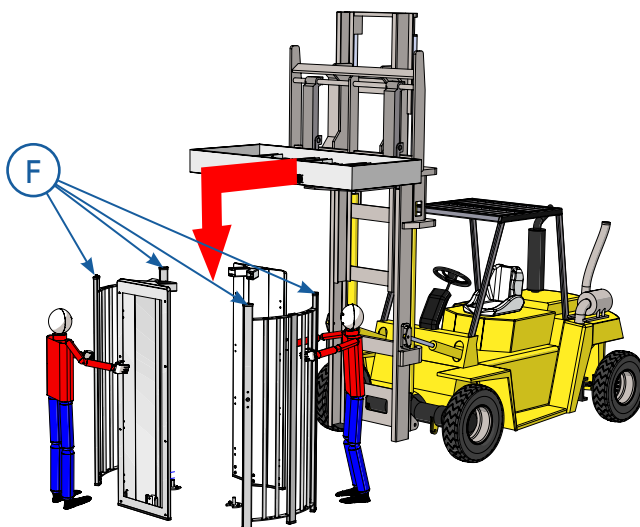

Fig. 22
Check that upright protectors (F) are present at the points where fixed panels come into contact with the housing. [⇒ Fig. 22]